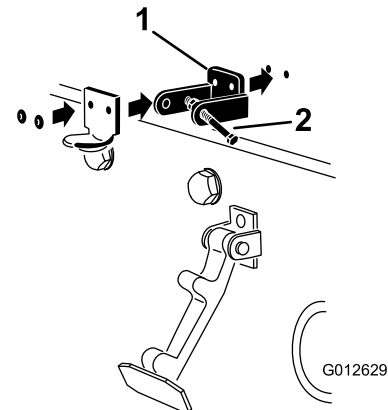

Figure 4
4. Align the holes of the hood-latch bracket, CE-lock bracket, and hood as shown in Figure 4.
Note: Align the CE-lock bracket against the hood (Figure 4). Do not remove the bolt and nut from the arms of the CE-lock bracket.
6. Rivet the brackets and the washers onto the hood (Figure 4).